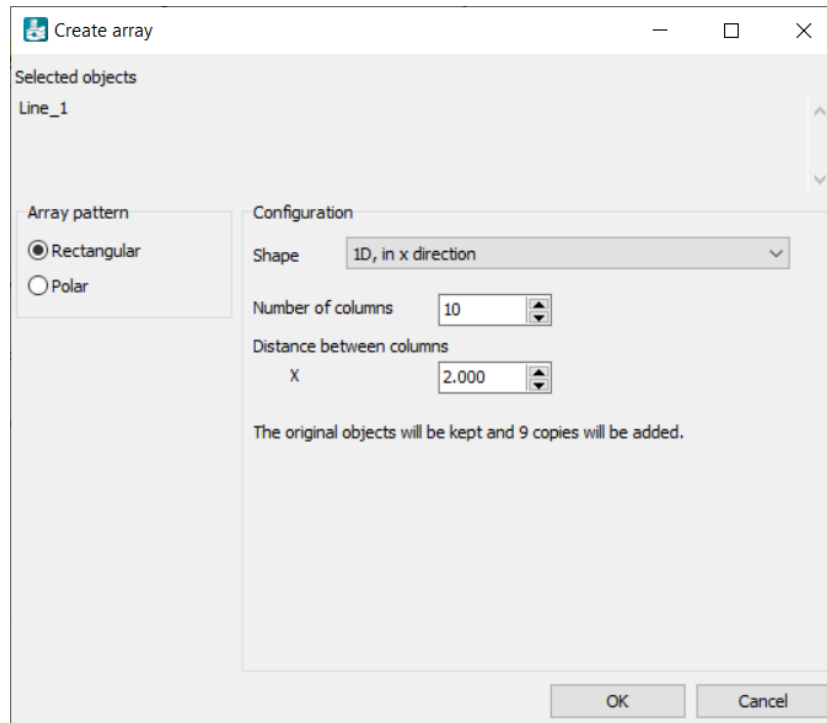

Figure 89: Settings of the drain pattern
4. In the **Create array** window select the menu item **Shape > 1D, in x direction** in the drop-down menu and specify the pattern as shown in Figure 89 (on page 116).